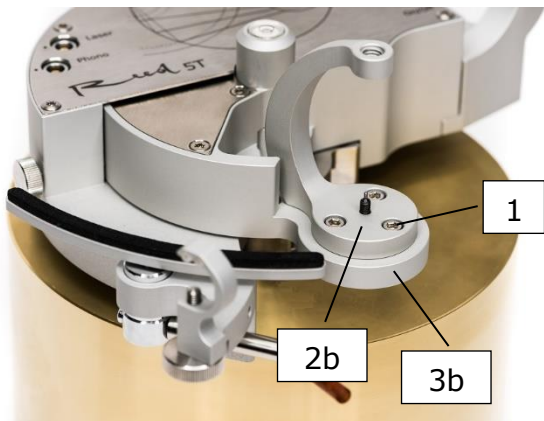

Figure 5
- d) Fix armwand base [2b] to armwand base pad [3b] using three M3 screws [1] (Figure 5).